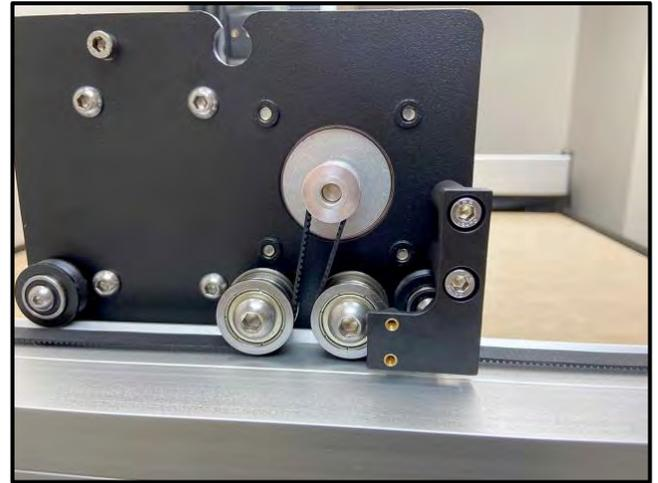

Figure 13
1. Install the Y-Axis proximity switch mount to the outside of the Y2-carriage. See **Fig. 13**.
- b. Use a 4mm hex key and two (2) M5×35mm SHCS to secure.